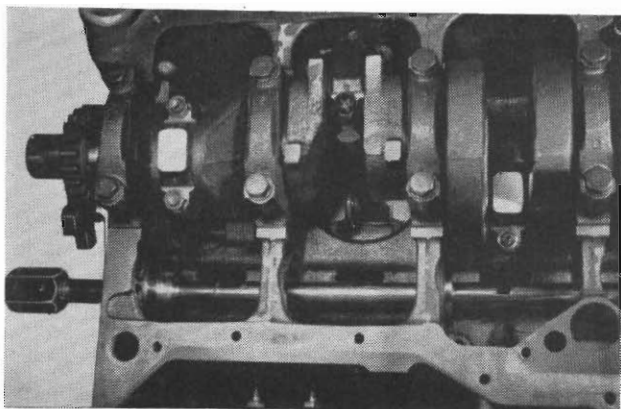

Fig. 33 - Removing and installing camshaft bearings (typical view)
(1) Install the new camshaft bearings using a suitable tool by sliding the new camshaft bearing shell over the correct adaptor.
(2) Position bearing in the tool. Install horseshoe lock and drive bearing shell into place (Fig. 33).